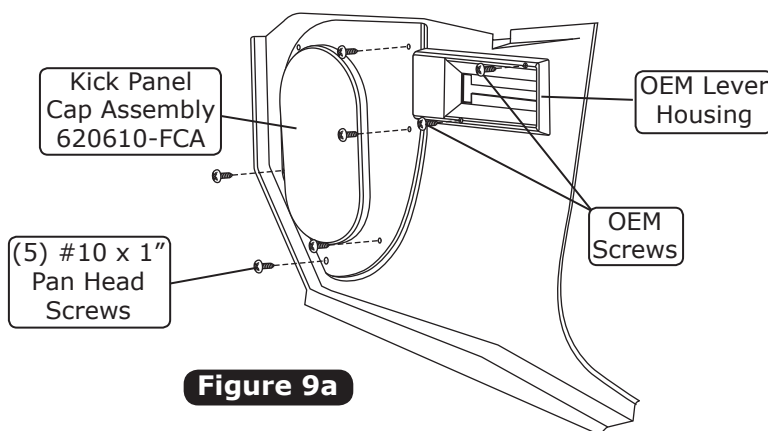

Figure 9a
2. Install the kick panel cap using (5) #10 x 1" pan head screws as shown in Figure 9a, below.
3. Using OEM screws, install the OEM lever housing as shown in Figure 9a, below.